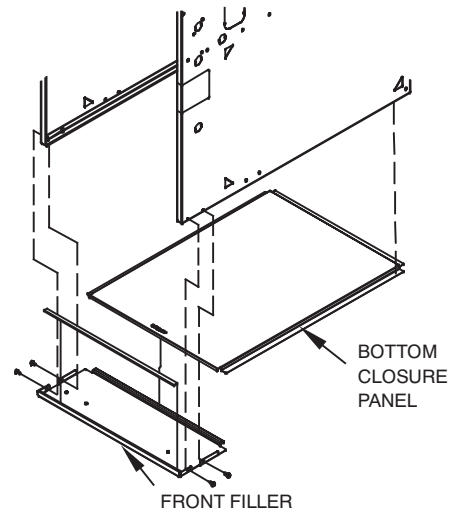

Fig. 4 – Removing Bottom Closure Panel
2. Remove bottom closure panels from both furnaces. (See Fig. 4.)